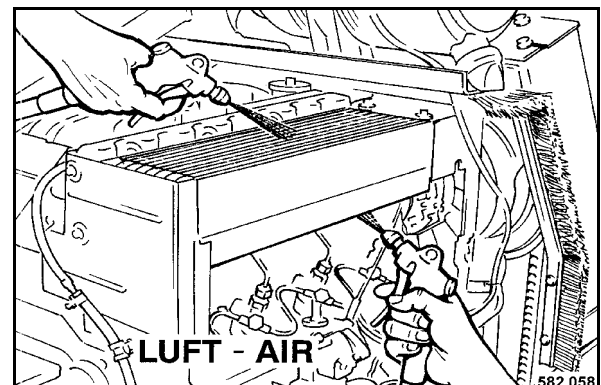

Fig. 128
- Take the cooling air duct cover off and blow the radiator (Fig. 128) out, starting from the air discharge side.